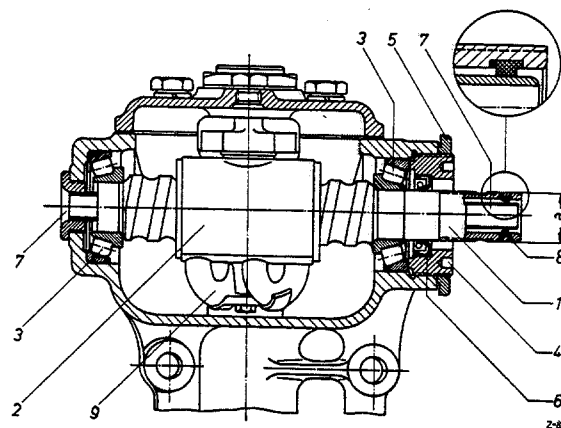

Fig. L 4/5
14. Remove the sealing ring (8) for the cable guide tube from the steering worm.
15. Then tap out the grease seal (6) from the adjusting ring (4) (Fig. L 4/5) and the grease seal (10) for the steering shaft (1) (see Fig. L 4/6) from the steering housing.